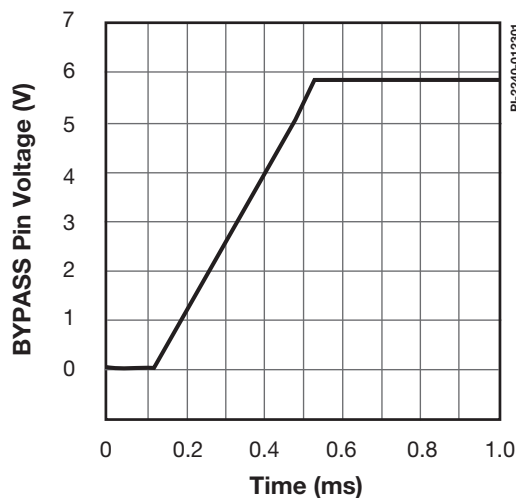

Figure 14. BYPASS Pin Start-up Waveform.
- See Typical Performance Characteristics section Figure 14 for BYPASS pin start-up charging waveform.